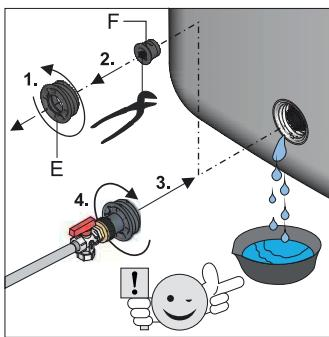

Fig. 6-4 Screw the KFE filling connection into the filling and draining fitting
- At the filling and emptying connection, unscrew the threaded piece (fig. 6-4, item E), remove the sealing plug (fig. 6-4, item F) and **immediately screw** the pre-assembled threaded insert with the **KFE filling connection** back into the filling and emptying connection (fig. 6-4).